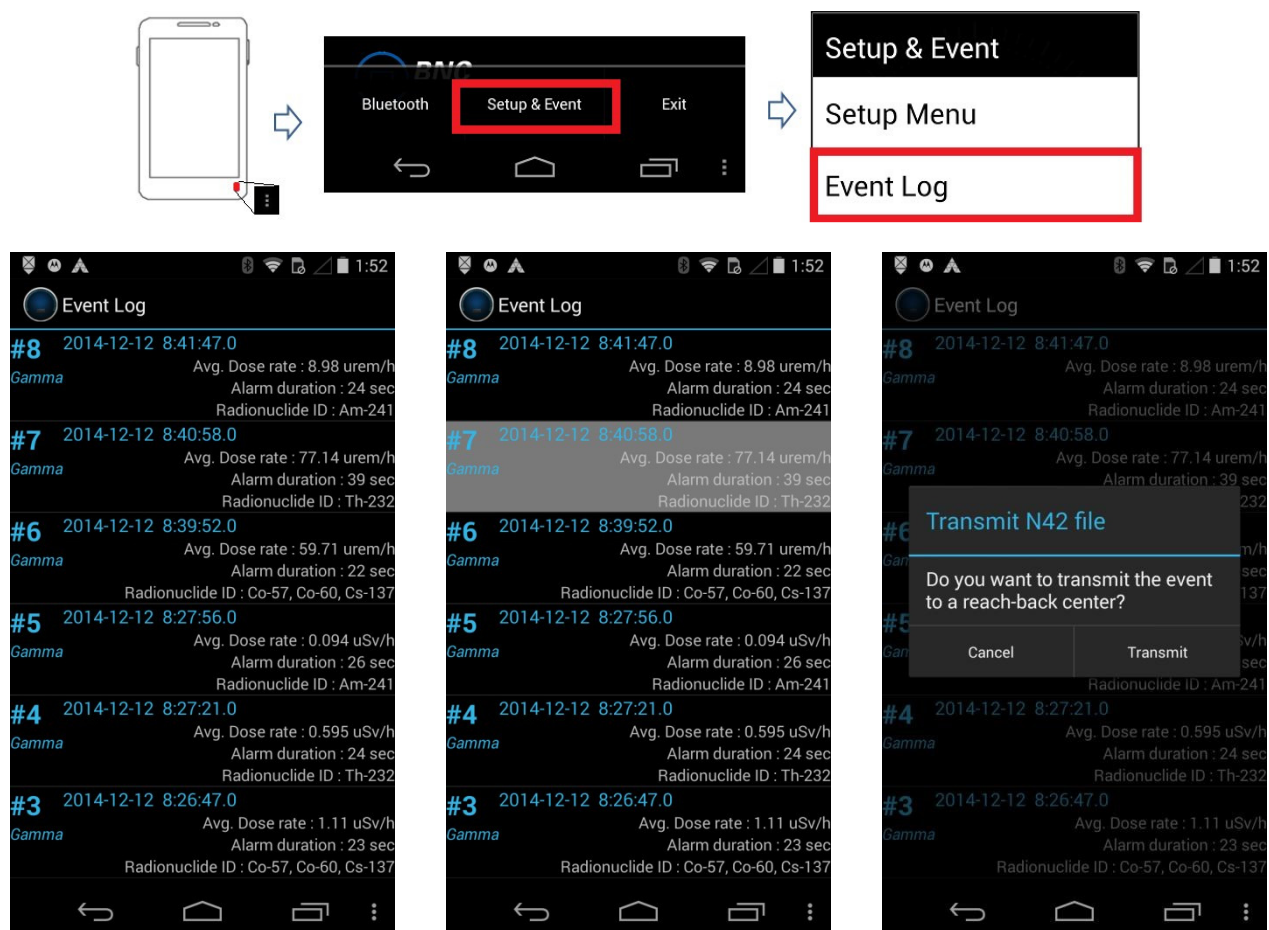

Figure 4.34. Wireless data transmission example
- a. Open the Event Log list (Figure 4.34, top)
- b. To select an Event Log from the list, touch and hold it for two seconds (Figure 4.34, lower left and center)
- c. At the "Transmit N42 file" prompt, touch **Transmit** (Figure 4.34, lower right)